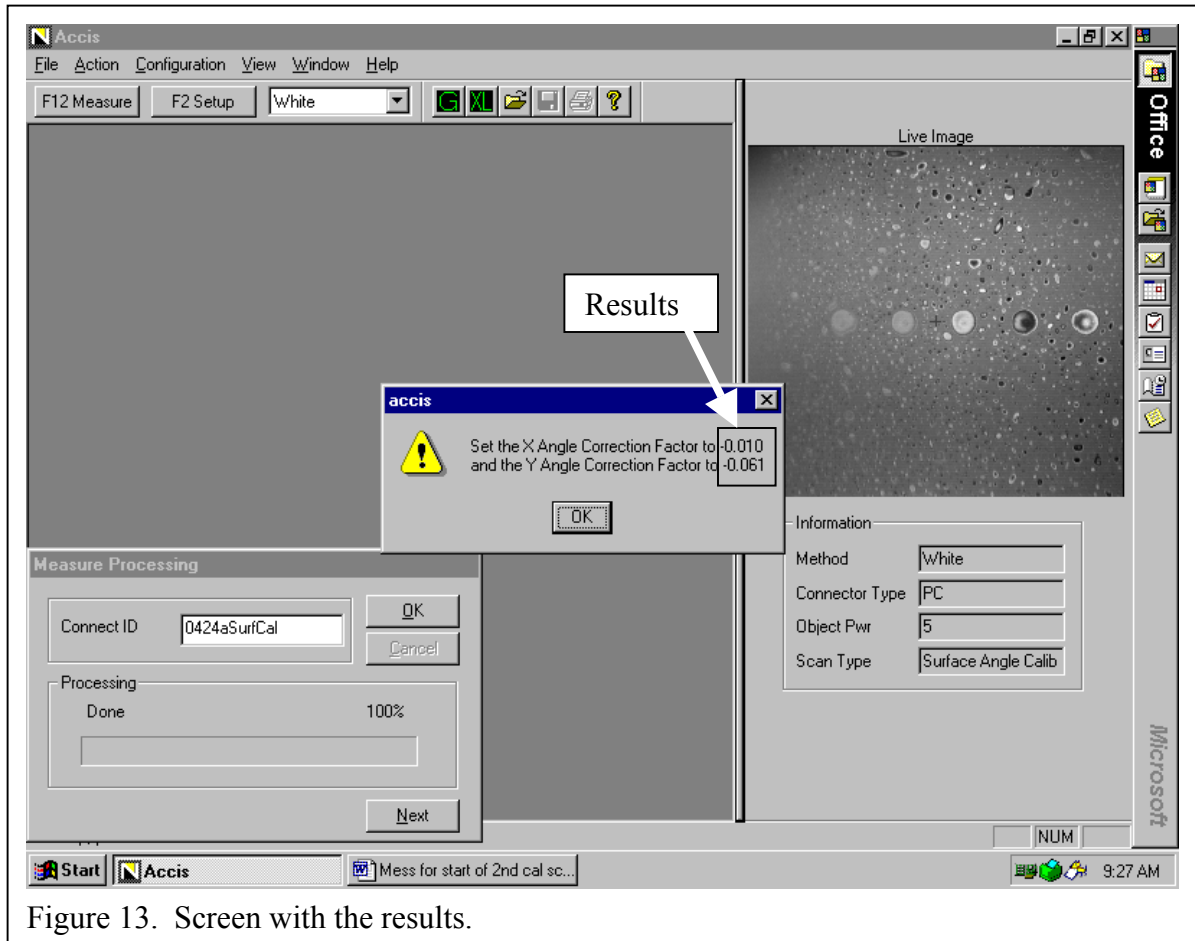

Figure 13. Screen with the results.
13. Results. At the conclusion of this second run the message shown in Figure 13 will be displayed. Write down the values of the X & Y Angle Correction Factors. For example, X Angle Correction Factor = -0.010 and Y Angle Correction Factor = -0.061. Press “OK” in the “accis” window. In the next “accis” window press “Yes” to the question “Do you want to save the result?”